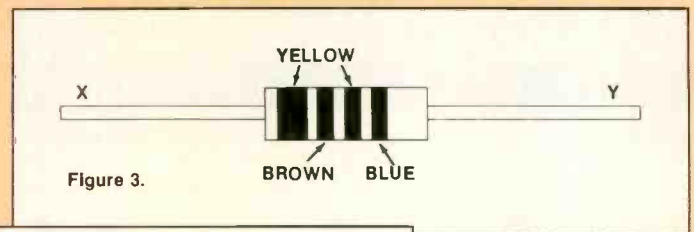

Figure 3.
5. Identify the type of diode illustrated in Figure 3.
6. The cathode of the diode in Figure 3 is connected to lead